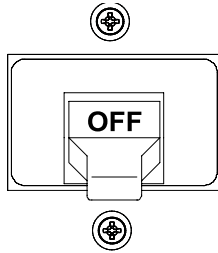

Figure 24. Main Circuit Breaker (OFF)
1. Place *main* circuit breaker (Figure 24) in the **OFF** position.